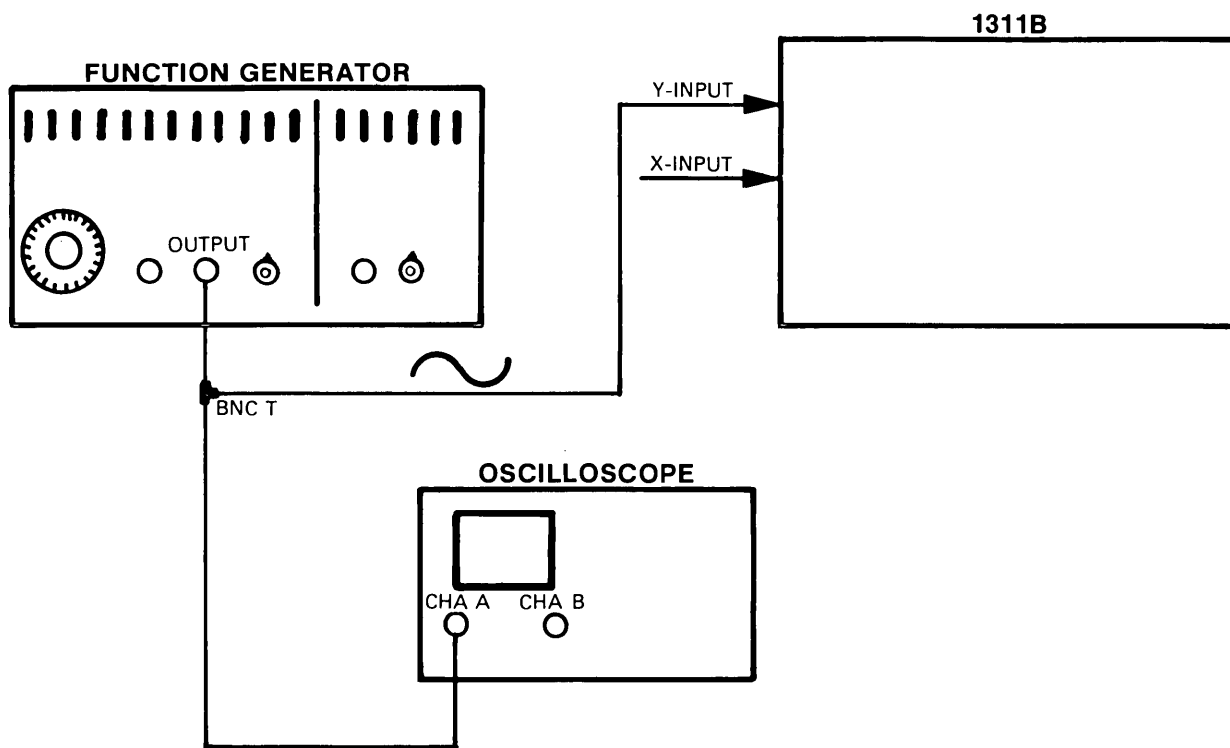

Figure 4-3. Y-deflection Factor Test Setup
- a. Connect equipment as shown in figure 4-3.